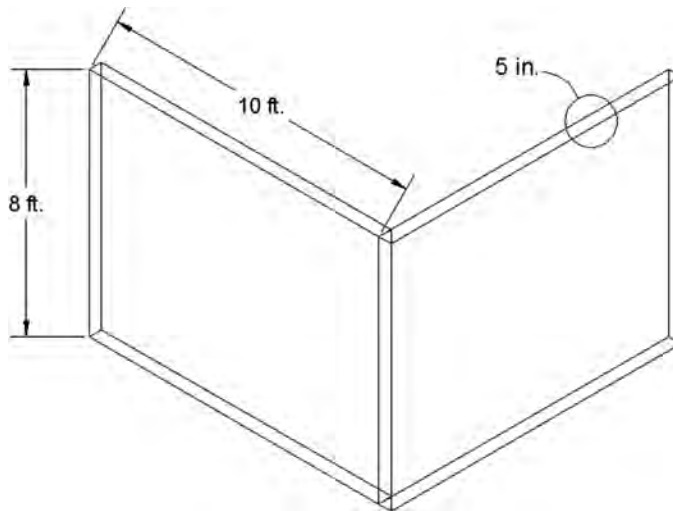

FIGURE 23.11
Step 1. Draw two walls that are 8' high and 10' long, with a thickness of 5". One way to do this is to first draw a rectangle that is 5" \times 10' and extrude it to 8'. Then, copy the structure and reattach the copy at 90° to the original wall. Figure 23.11 shows what you should see in wireframe mode.